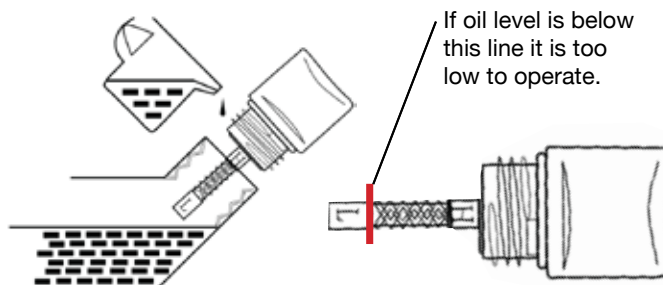

Figure 10: Oil level
- **Acceptable Oil Level** – Oil is visible on the crosshatches between the H and L lines on the oil fill plug/dipstick (see Figure 10).